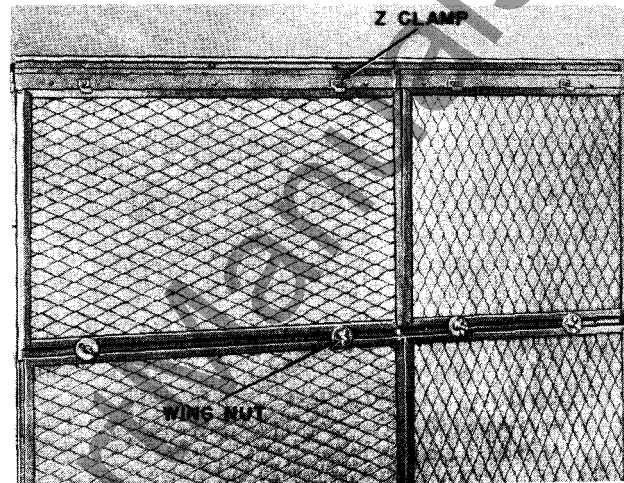

Fig. 19 Installation of Filters
**Filter Clamps** are installed during assembly of the top plate covers. Install the filter clamps ("Z" shaped) on the outlet air side of the top plate covers, using the long sheet metal screws. Clamps and screws are supplied with the filter hardware. See Fig. 19.
**Filters** (nominal 3' x 2' and 2' x 2' cleanable type) are supplied to cover the outlet air side of the frame bank - one filter per frame. Hardware for attaching filters is supplied in a separate package marked "Filter Hardware". The Z clamps and long bolts should have been installed during installation of the frames and top plate covers. (See Fig. 19.)